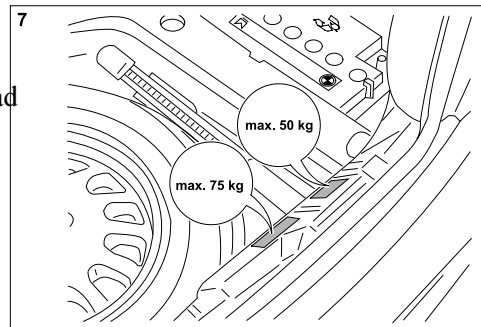

Fig. 6 : Vertical loading shield and indicating label for operation
17.) Bond payload display plate max. 75 kg next to the lock on the underside of the boot lid. Bond plate indicating operating instructions on cover of toolbox; see Fig. 6.